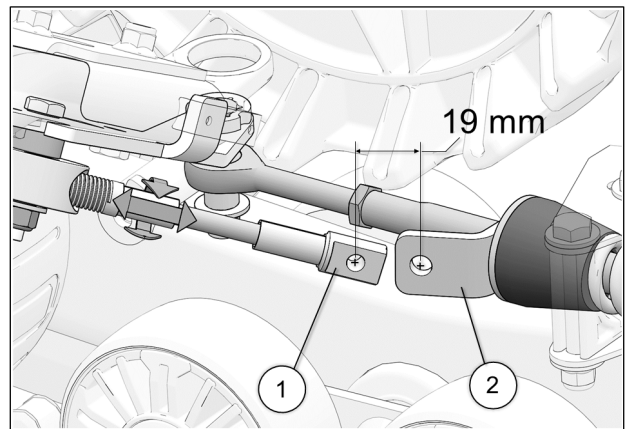

Fig. 26
15. Turn the vehicle's steering wheel to its maximum point of travel on the left. While maintaining pressure on the steering wheel, turn threaded rod to adjust length of cable. See Fig. 26
16. Position cable end hole (1) is located 19 mm [$\frac{3}{4}$ in.] short of the mounting hole on the support plate (2). See Fig. 26